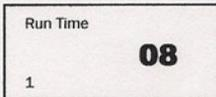

FIGURE 3
STEP 3: The 7:00am setting that now appears on the display has been factory installed. This is a very common time that is used often, but if the 7:00am setting is not desired, you can pulse or hold the up or down arrow buttons until the desired time is displayed. (Please note the small number 1 in the lower left hand side of the display. – This is the first feed time for the unit. A total of 6 are possible. – We will refer to this number as we move to the following steps.) After the desired feed time is displayed, press the SELECT/ENTER button one time. The display will show FIGURE 3.
STEP 4: The display should now show FIGURE 3. Note the number 1 in the lower left side of the display (It shows this is still concerning your number 1 feeding). The 08 setting is factory installed and is a very common setting. If this setting is not what you desire, press the up or down arrow key until the number of seconds of run time you want are correct. A possible of 1 to 30 seconds can be set. The 08 second setting should throw approximately 1 pound of corn. After the correct number of seconds are on the display, press the SELECT/ENTER button one time. The display should now show FIGURE 4.